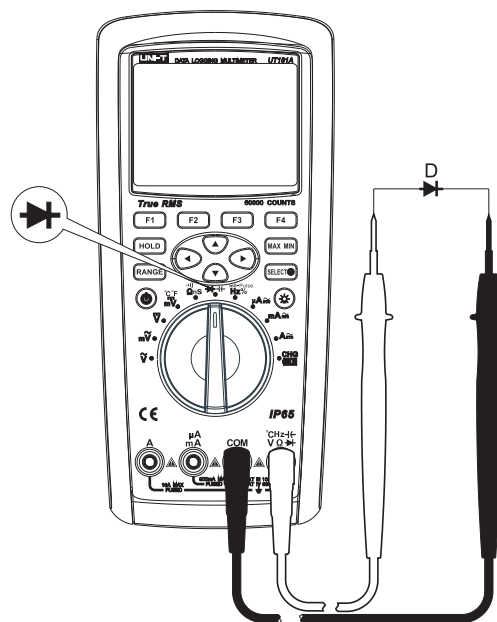

Figure 10
- 2) Set the rotary switch to the measurement \rightarrow \rightarrow and the diode measuring mode \rightarrow is default. Connect the test leads to both ends of the measured diode as shown in Figure 10. Directly read the approximate forward PN junction voltage of the measured diode on the display.